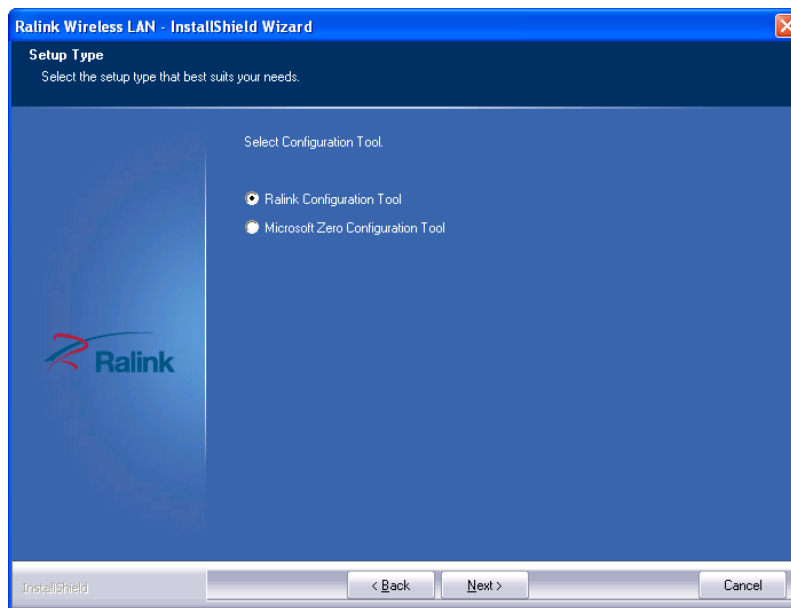

Figure 1-3: Configuration Tool
Step 7: The **Configuration Tool** screen in **Figure 1-3** appears.